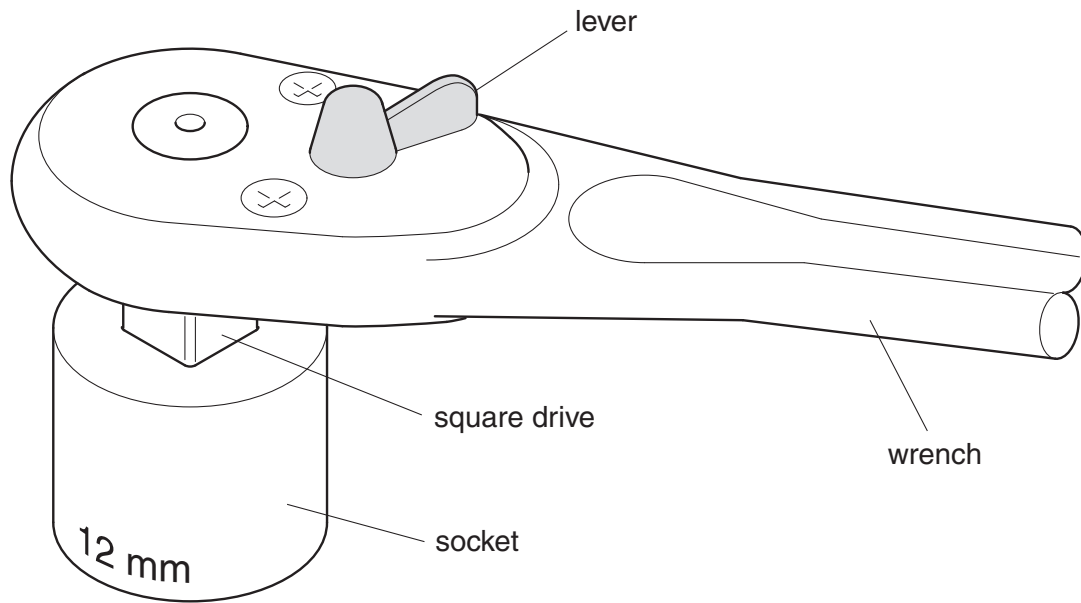

Fig. 5
- 3 Parts of the flood defence system need to be assembled quickly. Fig. 5 shows a socket and wrench used for this purpose.